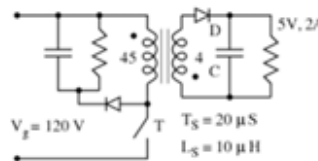

Fig. 1 Flyback converter
- (iii) The primary current wave shape and its peak value of the following 10 W Flyback converter shown in Fig. 1